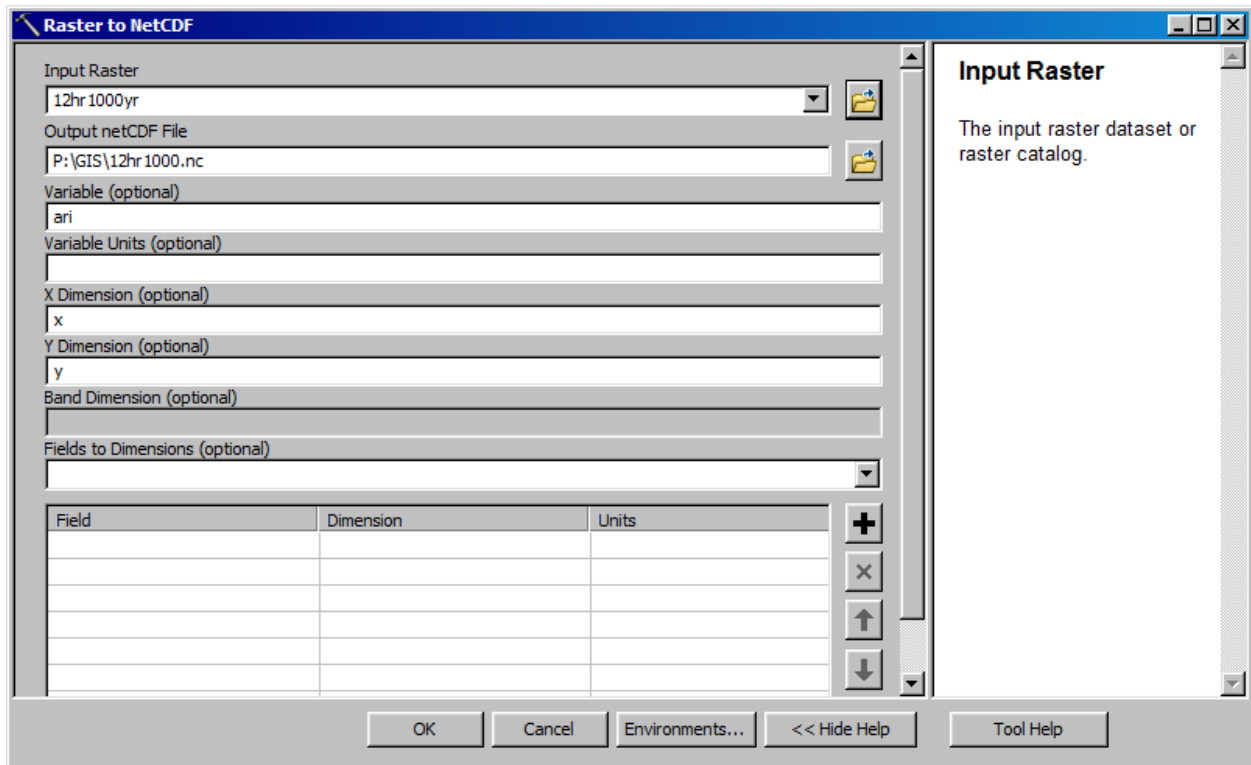

Figure 7 – Using the Raster to NetCDF Tool
9. Use the Raster to NetCDF tool in ArcToolbox to convert the clipped grid created in step 7 above to a NetCDF file. This tool allows you to specify several parameters that get included in the NetCDF header. Figure 7 below shows how we defined them. Some of these parameters can probably be changed, but this is what worked for us.